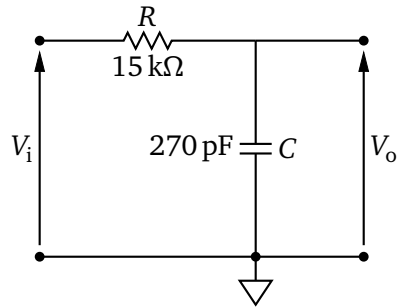
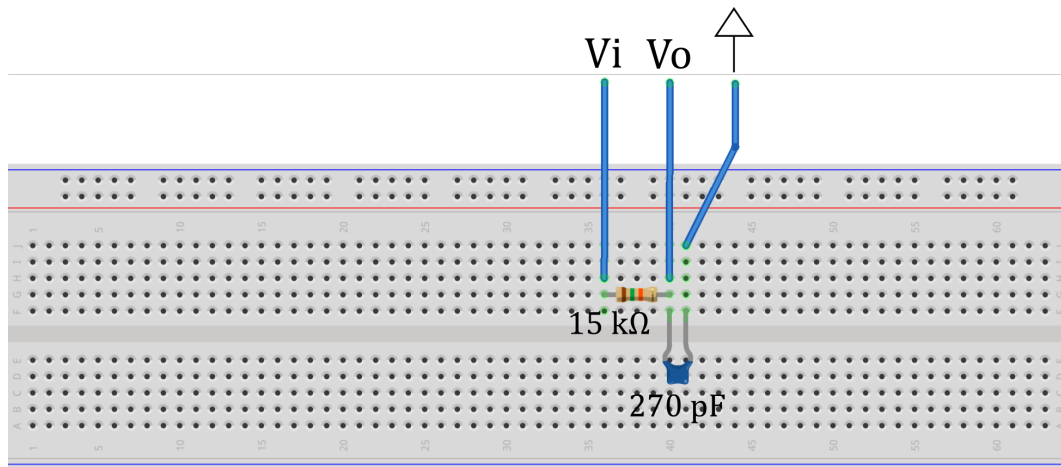

Figure 10: Circuit diagram of the RC filter.
Figure 11: A possible way of assembling the RC filter of figure 10.
- 1 Calculate the nominal cut-off frequency f_H and the nominal step-response rise-time t_r for the circuit of figure 10.
- 2 Assemble the circuit of figure 10 on the breadboard. Figure 11 shows a possible way of assembling the circuit.